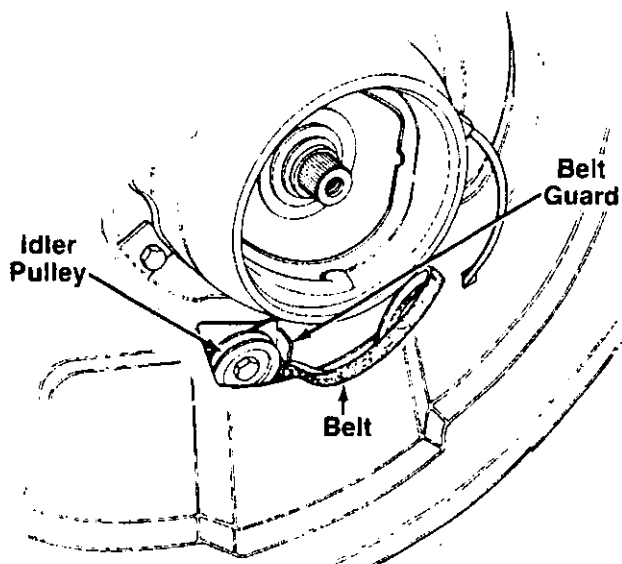

FIGURE 24.
9. Remove belt from the engine pulley half. Remove the belt from between the idler pulley and the belt guard on the idler pulley bracket. See figure 24.